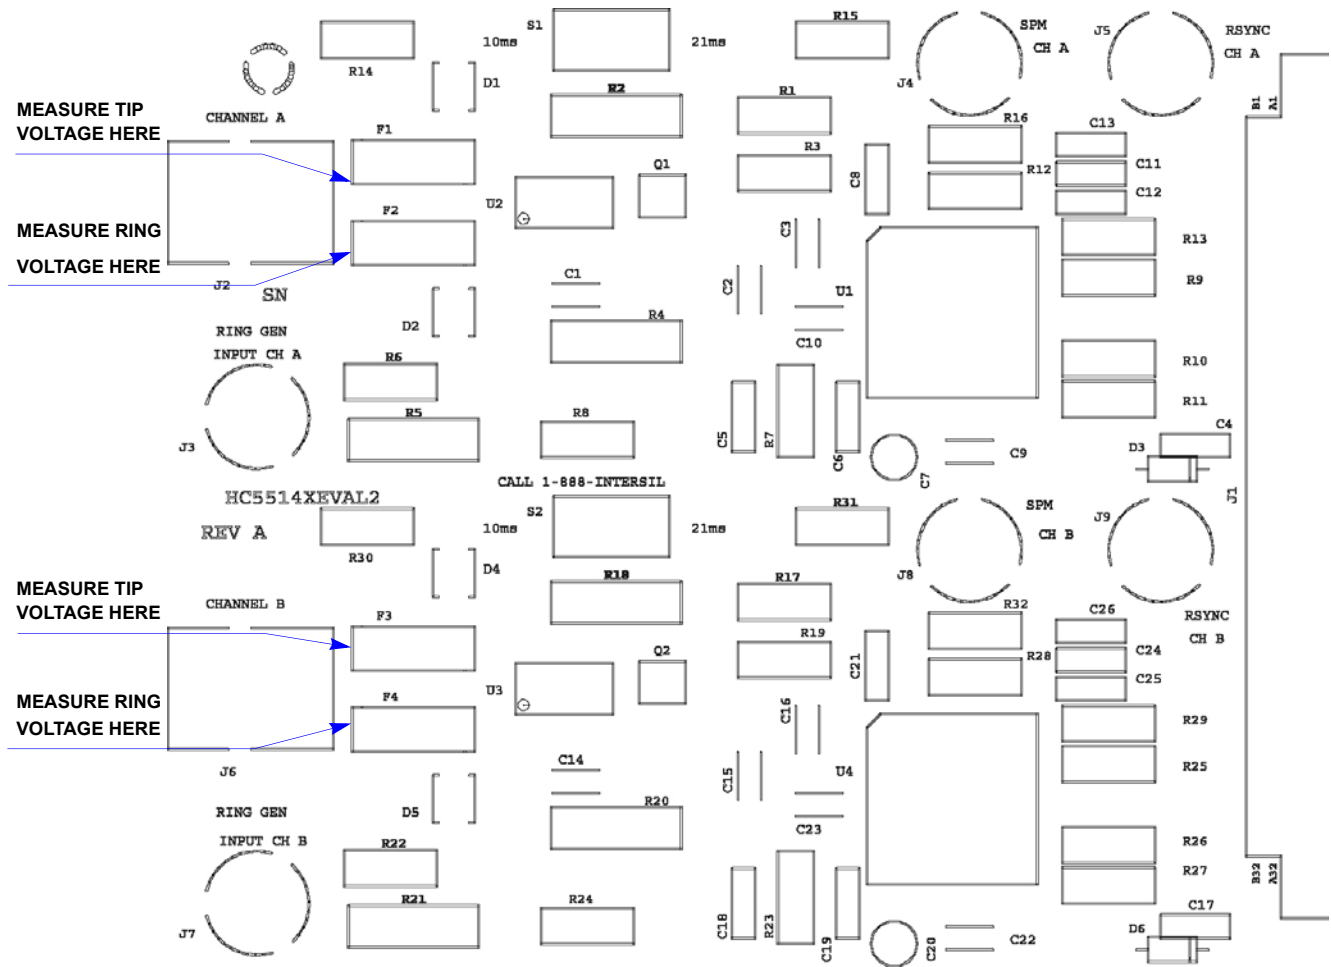

FIGURE 6. DAUGHTER BOARD LAYOUT
4. Measure the tip and ring voltages (reference Figure 6) and compare to those in Table 1 (onhook).
2. Verify tip voltage (no load, reference Figure 6) is around -2.5 volts.
Applying the ring signal at zero voltage is accomplished by providing a ring sync pulse to the RSYNC CH A/B BNC on the daughter board (Figure 6). The ring sync pulse is synchronized to go low at the zero voltage crossing of the ring signal.
Operation of the ISL5571A does not require a RSYNC pulse be present. The daughter board is configured so the RSYNC pin is grounded through one of two resistors via S1 or S2, channel A and B respectively (Figure 6).